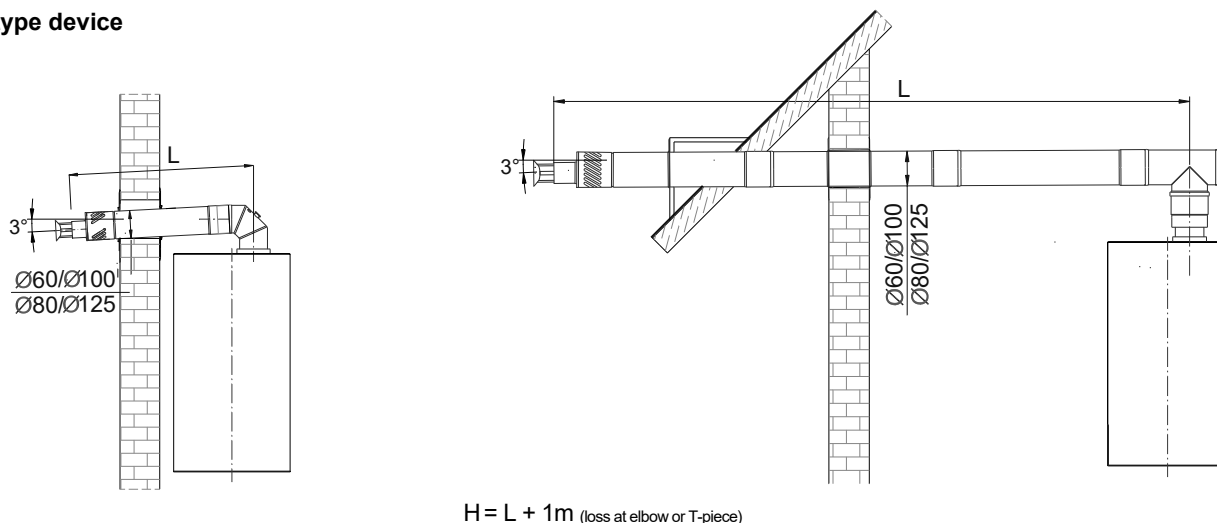

Fig. 3.6.1.1
- Unscrew a cover in an upper part of the combustion chamber in the point where an air supply system is connected to the water heater (Fig. 3.6.1),